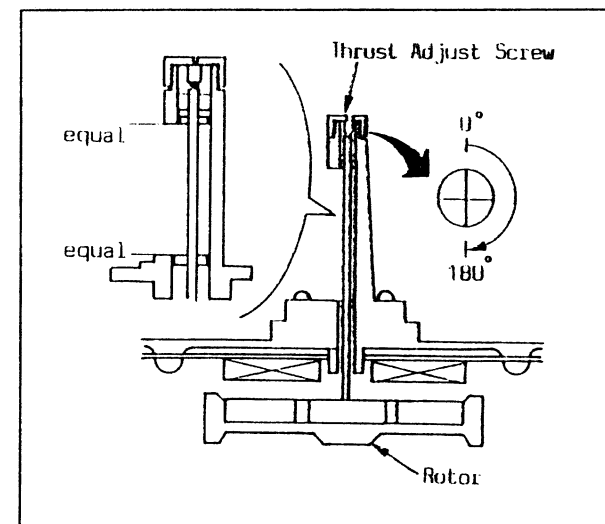

Fig. M21
11. Upon completion of above procedure, confirm that these 2 Dust Seals are positioned as shown in Fig. M21. And then, wipe off the Capstan Shaft to remove oil, grease and dust.